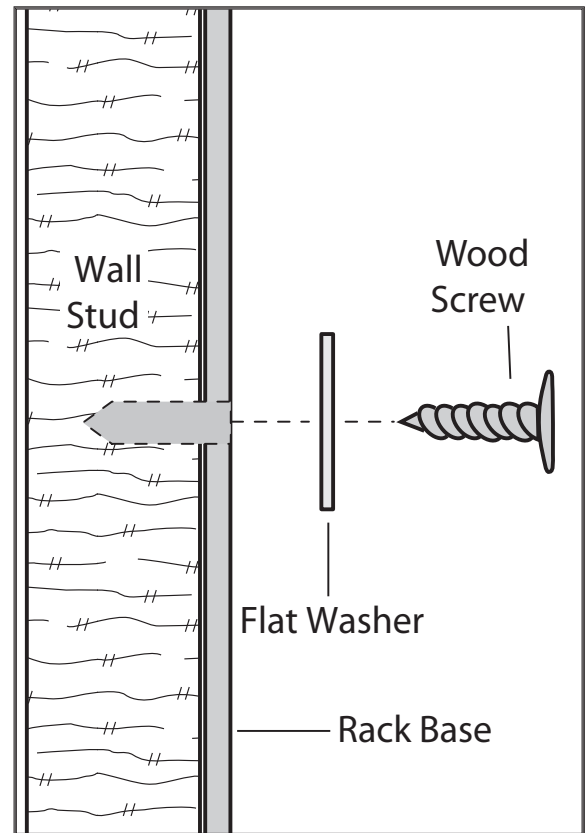

Figure 2. Wall stud installation.
3. With an assistant holding the rack in place, align the pencil marks with the rack's top bolt holes and secure the rack firmly to each stud wall, using two wood screws and flat washers, as illustrated in **Figure 2**.